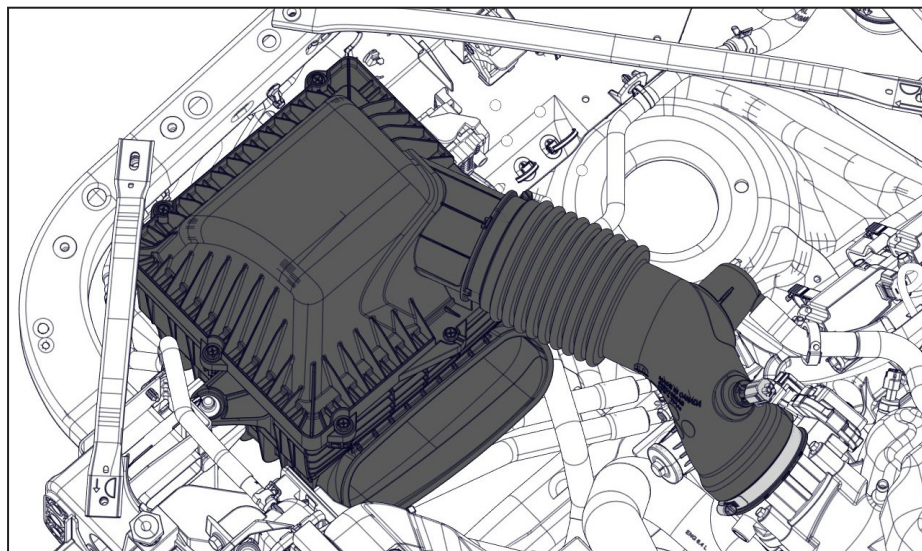

Figure 5 — Remove air box
- ☐ Disconnect the harnesses and remove the air box assembly (Figure 5).